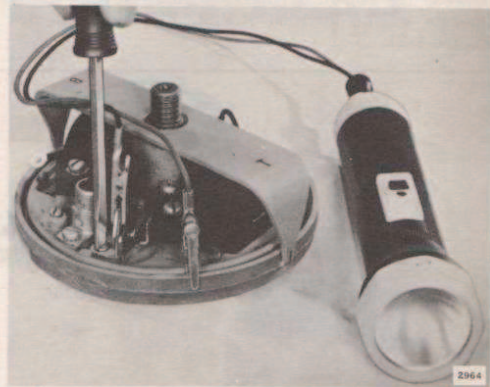

Figure 4-20. Adjusting Breaker Points
e. If timing is not correct, rotate the timing fixture clockwise one complete turn and align the timing fixture between the timing marks. Adjust points until the meter or light just indicates an open circuit. See Figure 4-20.